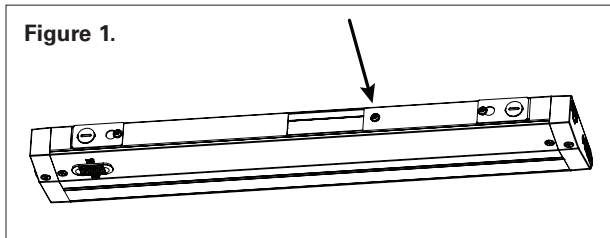

Figure 1.
1. Remove large back cover by loosening screw (Figure 1).
1. Retirez le grand couvercle arrière en desserrant la vis (Figure 1).